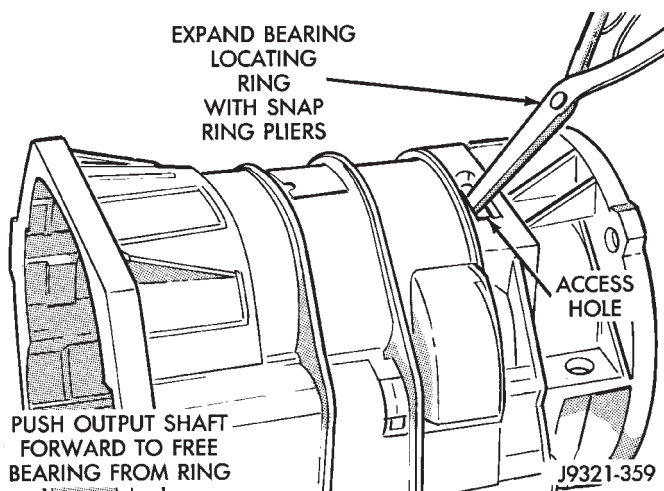

Fig. 258 Releasing Bearing From Locating Ring
(5) Expand output shaft bearing snap ring with expanding-type snap ring pliers. Then push output shaft forward to release shaft bearing from locating ring (Fig. 258).